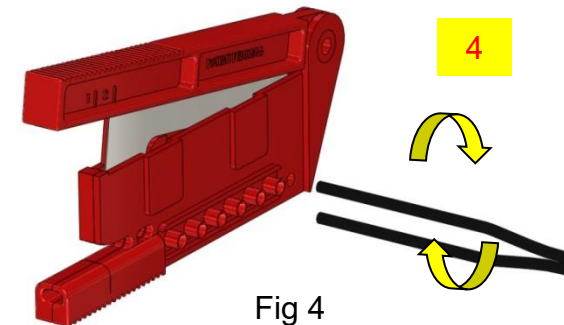
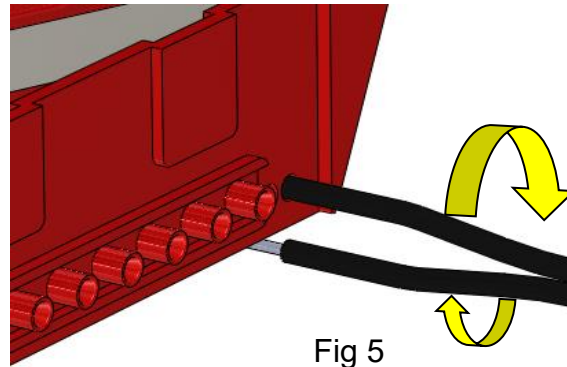

Fig 4
Fig 5
- 4.To strip the fiber, insert the fiber into the tool and close the tool. Keep the tool closed then rotate at least 1 ½ turns (Figure 4) Then pull outward to remove the jacket. (Figure 5)
1. Line up the second fiber to the seam of the tool as shown in Figure 5 and then remove that jacket as well.